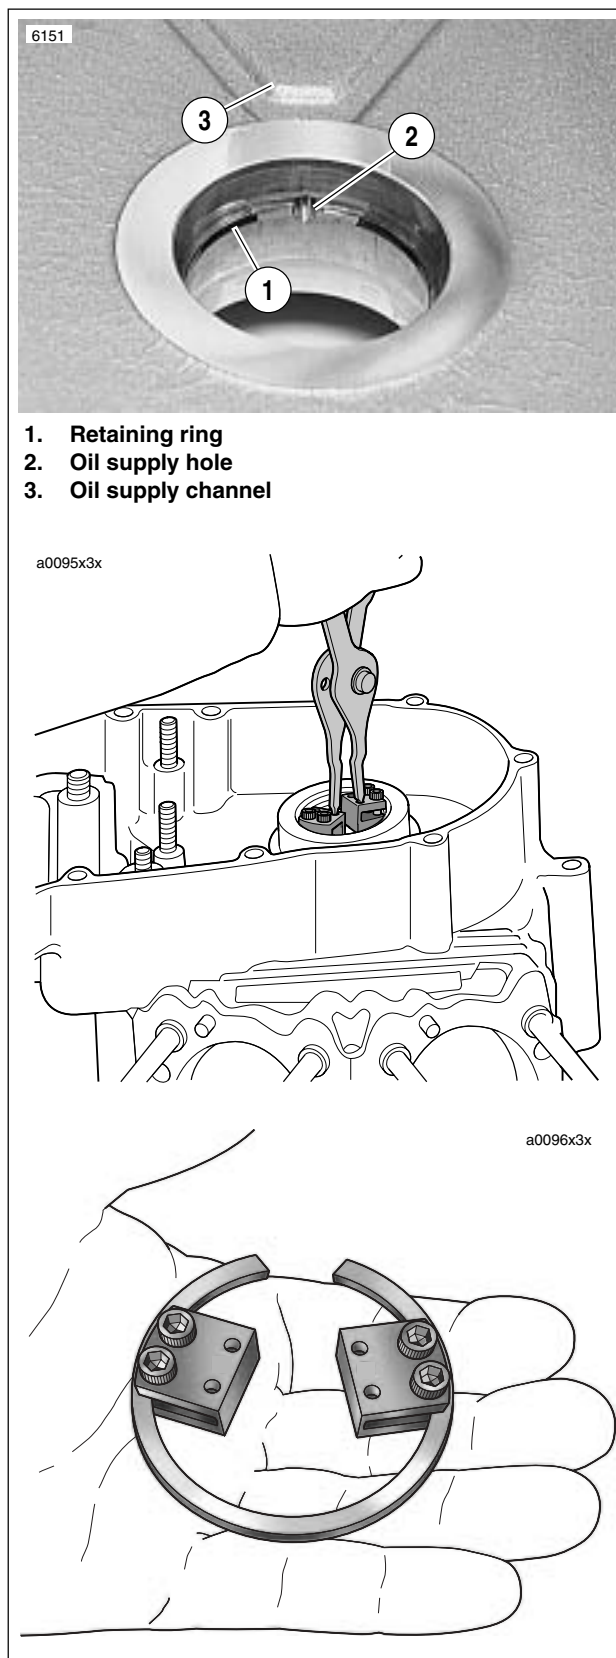

Figure 3-124. Snap Ring Installation Using Retaining Ring Remover/Installer (Part No. HD-44069)
1. See Figure 3-124. Install **new** snap ring to crankcase bore (if bearings were replaced).